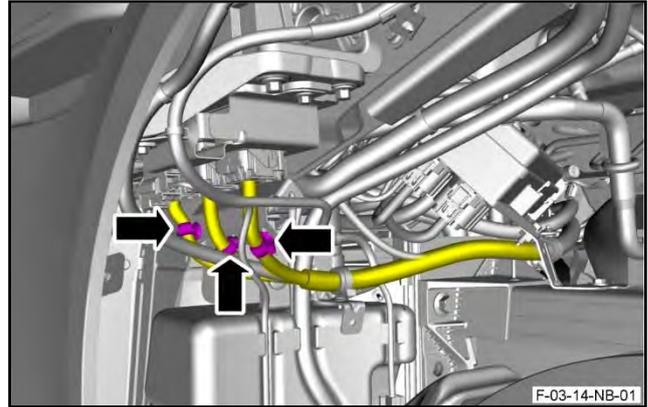

Figure 1
7. Release the bases of the three fir-tree cable ties that attach the Powertrain Control Module (PCM) harness to the PCM bottom bracket (refer to Figure 1). Do not cut the cable ties.